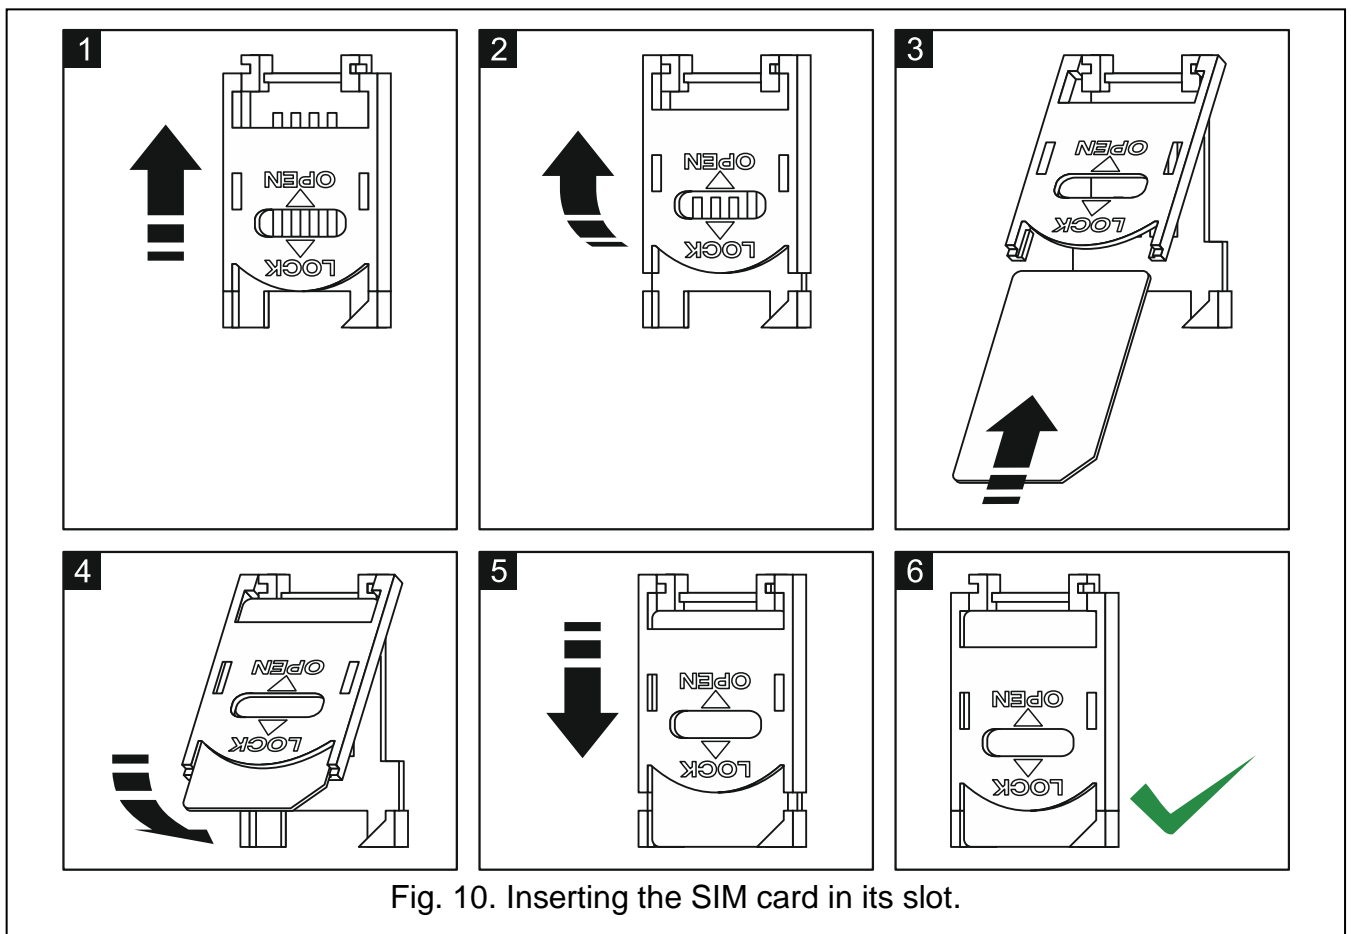

Fig. 10. Inserting the SIM card in its slot.
2. Insert the SIM card into the onboard socket (see: Fig. 10). Communicator logging into the cellular network may take a few minutes.